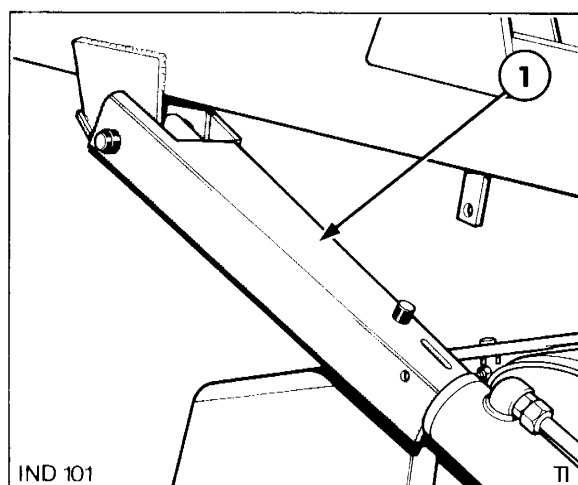

FIGURE 0-6
To install the support, raise the loader to full height, then remove the retaining pin and position the support onto the load lift cylinder. Slowly lower the loader until the support (1) takes the weight of the loader, Figure 0-6. Do not apply down pressure on the loader lift cylinders.